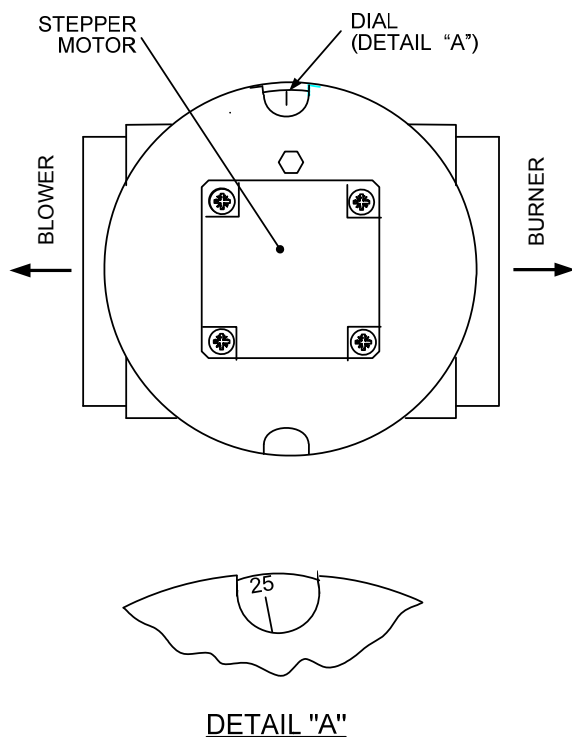

Figure 3-6.
- (a) The Air/Fuel Valve rotates to the low-fire ignition position and closes the ignition switch. The dial on the Air/Fuel Valve (Figure 3-6) will read between 25 and 35 to indicate that the valve is in the low-fire position.